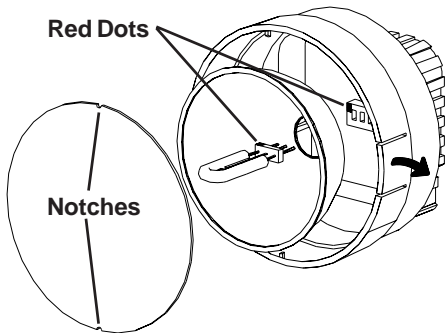

Figure 4 Lamp Replacement
3. The lamps are polarized and must be put into the socket matching polarity. **Using a lint free cloth, match up the red dot on the plug with the red dot on the socket** and gently rock the lamp while pushing it into place (see Figure 4). Make sure the lamp is in straight and centered in the reflector hole.
4. Reinstall the reflector and then position the front lens in place matching up the notches on the lens with the two small tabs on the housing to prevent lens rotation (see Figure 4). Push the tabs on the front rim outward and press the lens into place.